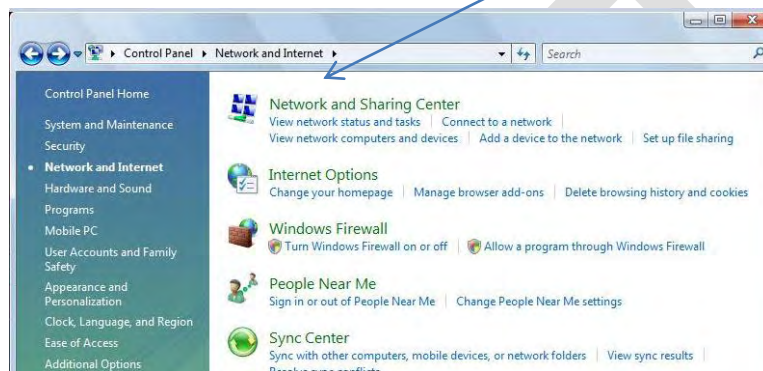

Fig 6
- b. When the Network and Internet windows opens click “**Network and Sharing Center**” (Fig 6)